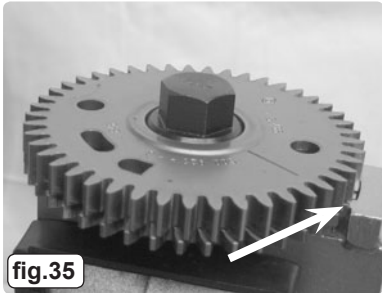

fig.35
3.6.2 Place the inlet camshaft gear on to the Fixture (fig.35) (timingmark visible), with the keyway in the gear located on to the spindle of the Fixture and the gear teeth located in the base of the Fixture.